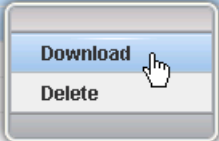

Figure 9-11 Download heat files
- Now you can select the heat files that you want to use for the STAT tool. Select the files, right-click, and select Download, as shown in Figure 9-11.